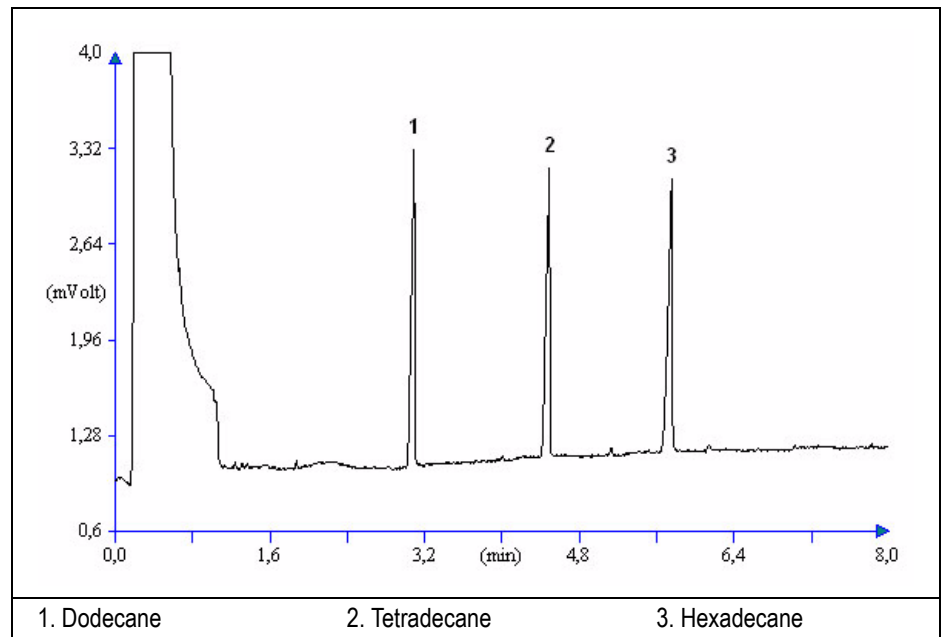

Figure 26-1. TCD-Packed Injection
- Inject the test mixture and press **START** on the GC to begin the checkout run. The resulting chromatogram should look like the one shown in *Figure 26.1*